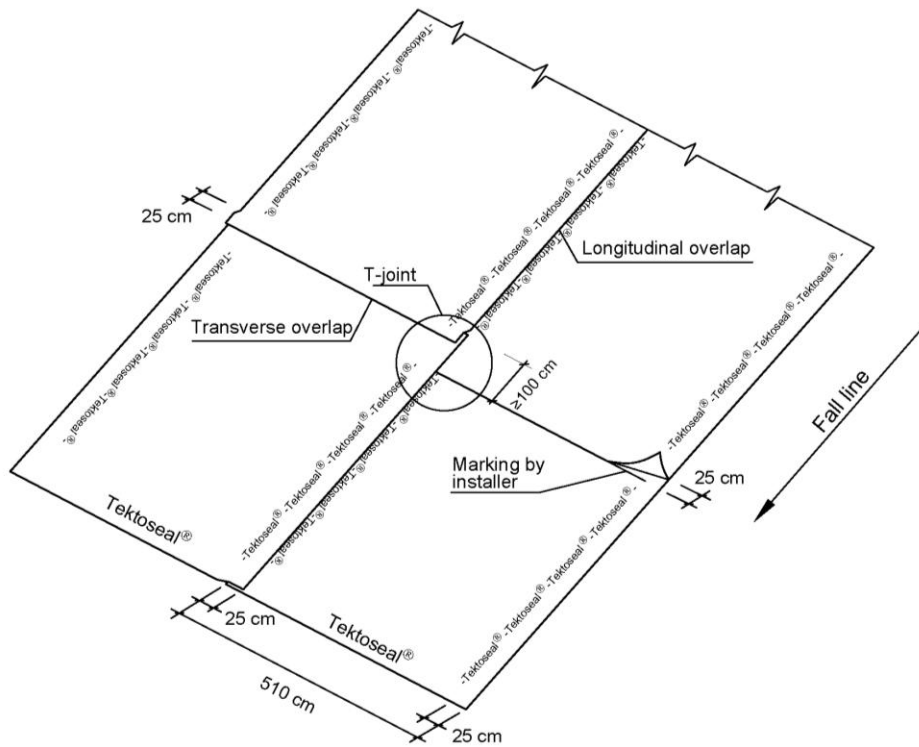

Fig. 5: Illustration of joins between Tektoseal® liners
- T-joints shall be staggered by 1 m (Fig. 5); cross joints shall not be permitted.